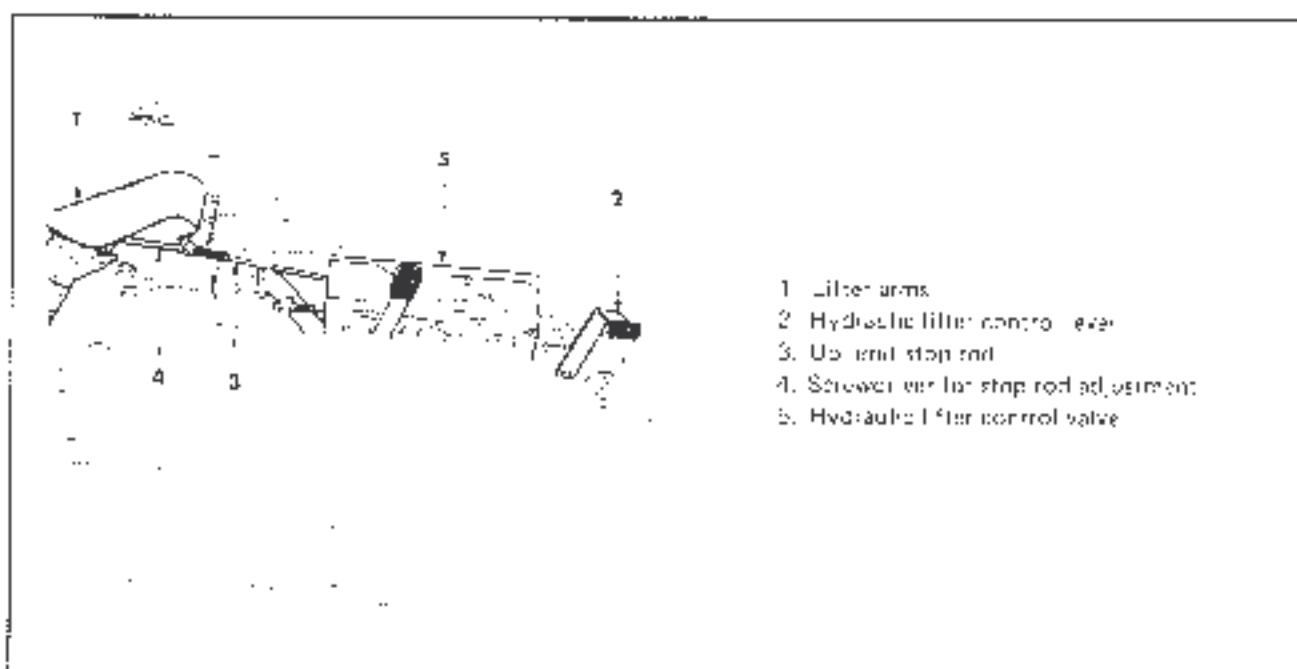

Figure 38. Adjustment of LIP limit stop rod
b. Lifter does not lower. (This may be encountered in the case of a new apparatus after a fairly extended inactivity from final test).	<ol style="list-style-type: none"> 1. Jamming of shaft (3). Disassemble cover (22), place the control lever in down position. Unlock shaft gently tapping on.
d. Lifter does not remain in place, it rises or falls with working action. When engine is off, load creeps down.	<ol style="list-style-type: none"> 1. Leaking check valve (16). Take off cover (25), remove valve and clean valve seat. If seat and valve are found to be in good conditions and trouble is still encountered, change or filter oil and clean cartridge. 2. Oil seepage through piston seal or seal rings of cylinder cap, or through seal ring located between the body of the distributor block and the housing. Replace seal.
e. Poor lifting power. Anomalous overheating of the system.	<ol style="list-style-type: none"> 1. Pump low efficiency. Overhaul pump or replace it. 2. Improper setting of relief valve (8, 12). Remove cover (26) and replace spring. 3. Valve plunger (9) and seat (10) are out of order and allow oil seepage. Replace the valve. 4. Impurity on the pilot valve seat (14). Take off cover (26), remove valve and clean valve seat. 5. Pilot valve seat worn out (14). Overhaul distributor block.
f. When lifter arms are fully "UP", relief valve cavitates.	<ol style="list-style-type: none"> 1. Jamming of shaft (3). Disassemble cover (22), place control lever in down position and release shaft by tapping. 2. Improper setting of the relief valve. (stop Lifter arms (fig. 38, detail 11, through cover (2); adjust control (3) with a screwdriver (4) and engine speed rate is caused to increase hydraulic circuit not under pressure any more).